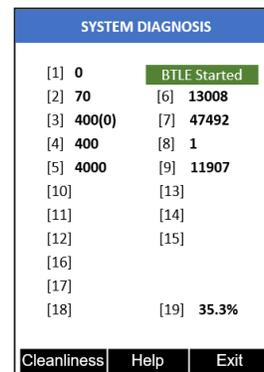

Figure 8.
Press **Diagnosis** () to launch the **SYSTEMDIAGNOSIS** screen where raw measurement data are displayed (Figure 8). The information has no use for normal operation, but instead is used for device troubleshooting. Provide an image of both the **DEVICE INFORMATION** screen and the **SYSTEM DIAGNOSIS** screen when you contact Pyxis (service@pyxis-lab.com) for troubleshooting your device or call +1 (866) 203-8397.
- Allow 5–10 seconds for the message in the top-right corner of the display change from **Starting BTLE...** to **BTLE Started** (Figure 8).